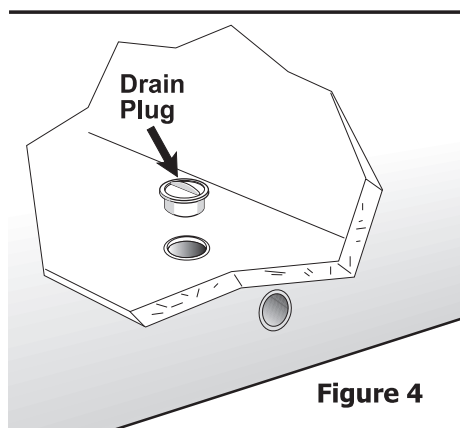

Figure 4
- Pull out the drain plug inside the freezer (see figure 4). Defrost water will drain out. Check pan occasionally so water does not overflow.